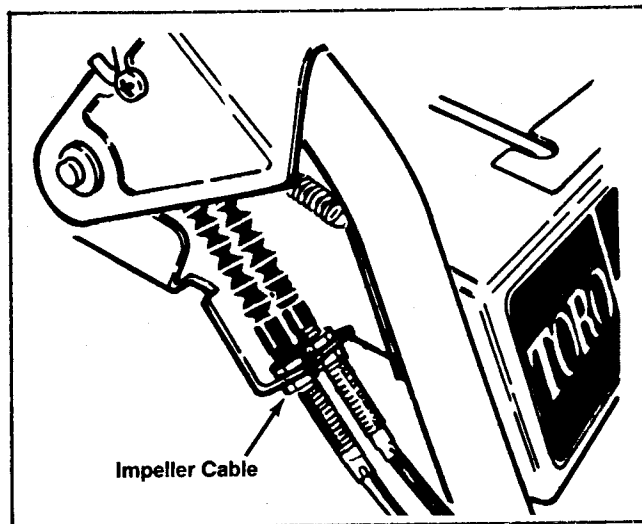

Figure 5
3. Loosen the upper jam nut securing the auger/impeller cable to the mounting bracket. See Figure 5.